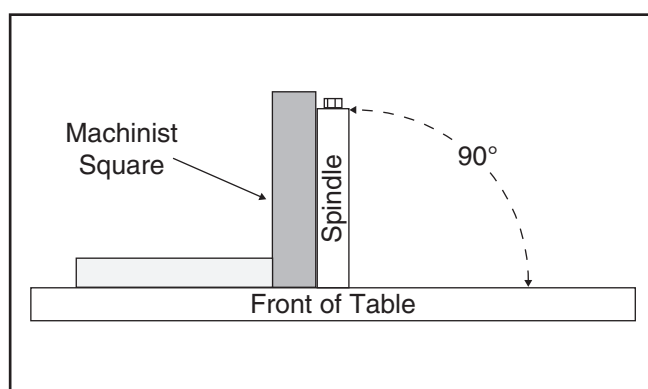

Figure 53. Illustration of using a machinist square with the table and spindle.
To reduce the risk of kickback and to increase the quality of cuts, it is important to make the table and spindle perpendicular to each other in all directions. This process will require taking measurements at many different positions (see **Figures 53 & 54**).
5. Position the machinist square against the spindle and the table (see **Figures 53 & 54**).